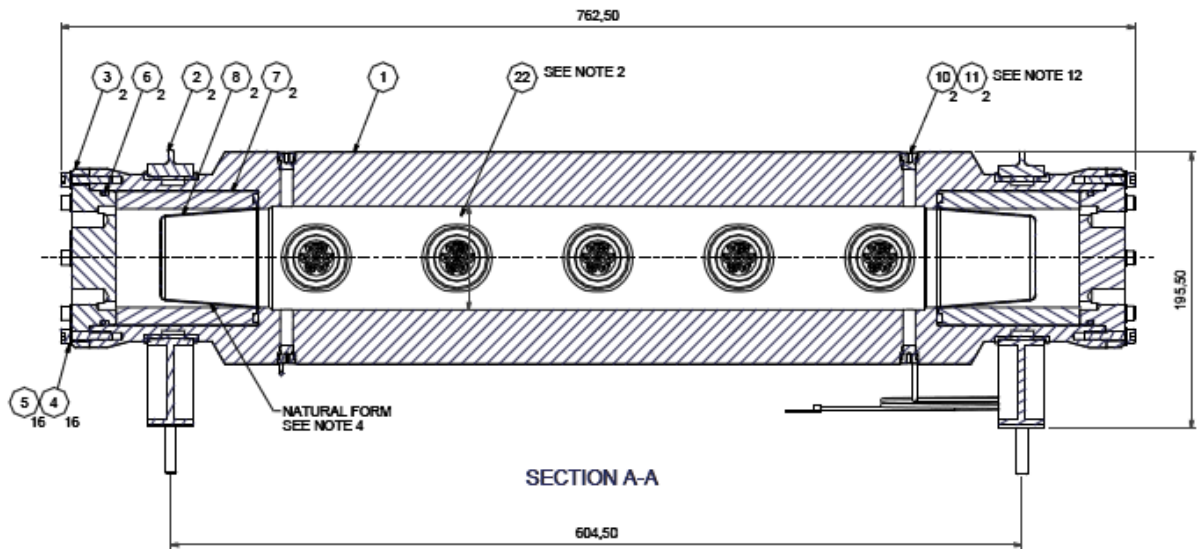

Figure 1 (ref) – Indicates distance of 604.50mm for mounting interface hole positions (tol. +/- 0.25mm)
**See fig 1 & 2 which highlight dimensions from drg T31014 sht1 for hole centres (images provided for reference only.)**